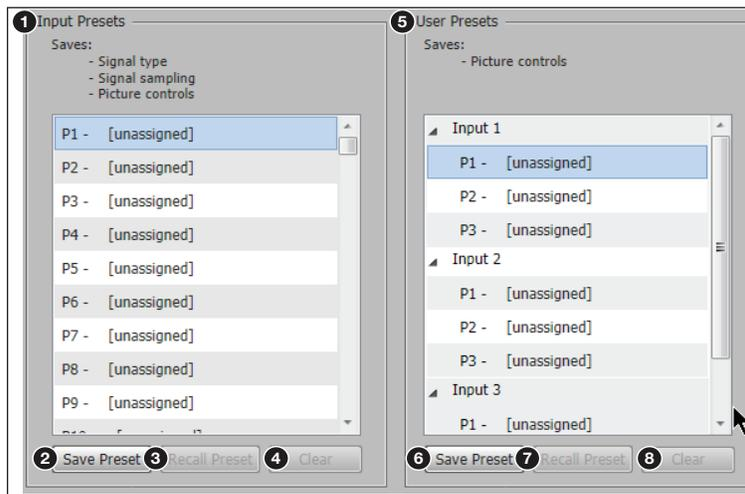

Figure 45. Input and User Presets Panel
When configuring the DSC 301 HD, a total of 128 global input presets and up to 3 user presets per input channel are available (see figure 45).
An input preset is a user-defined set of input and picture control settings that can be saved for each source within a system so that they can be recalled whenever the source is applied (see figure 45, ❶ on the previous page). Input presets are unique to the signal that was applied when the preset was initially saved.
There are three user presets per input to save picture control settings only (see figure 45, ❺).
1. In the **User Preset Name** column, double-click a **User Preset Name** (see figure 45, ❺).
2. Click the **Recall Preset** button (see figure 45, 7 on page 58). The Presets dialog box opens.
2. Click the **Clear** button (see figure 45, 8). The Presets dialog box opens.